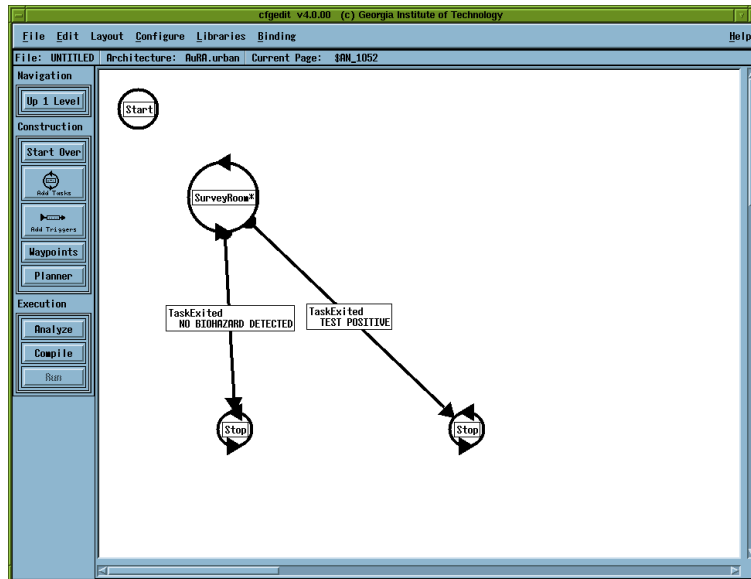

Figure 41: *CfgEdit* - two **ExitTask** triggers pointing out from the **SurveyRoom*** state.
- **ExitTask**: This state is usually used in a sub-FSA state. For example, the **SurveyRoom*** state (Figure 39) contains two **ExitTasks** to reflect the two conditions for the robot to finish the surveying room task: one for when the robot did not find a biohazard in the room, and the other one for when the biohazard was detected. **ExitTask** takes a string to notify the main-FSA. When the string of the **TaskExited** trigger in the main-FSA matches with the **ExitTask**'s string, as in Figure 41, the robot can move on to next state which the **TaskExited** trigger is pointing to.
- **SurveyRoom*:** As explained in the **TaskExited** section above, **SurveyRoom*** is an example of states with nested sub-FSA states and triggers (Figure 39). Assuming that the robot is in a room, it looks for a possible object (e.g., biohazard). If the robot finds the possible biohazard, it will conduct a test to identify whether the object is a real biohazard or not. The robot will exit this task if the object was a real biohazard. If the object was not a real biohazard, the robot will keep looking for another possible biohazard. The robot will also exit the task if it determines that there is no possible biohazard in the room. In the *MissionLab* system, the “*” at the end of a state name, like **SurveyRoom*** or **WanderRoom***, denotes that this state contains at least one **TaskExited** state in its nested sub-FSA states and triggers, and when the user chooses this state from the menu, the **TaskExited** trigger will be automatically generated to match with the **TaskExited** (e.g., see Figure 41). **SurveyRoom*** is composed with the following nested sub-FSA states and triggers: **Start**, **Immediate**, **LookFor**, **Detect**, **NotDetected**, **MoveToward**, **Near**, **TestObject**, **TestNegative**, **TestPositive**, and **ExitTask**.